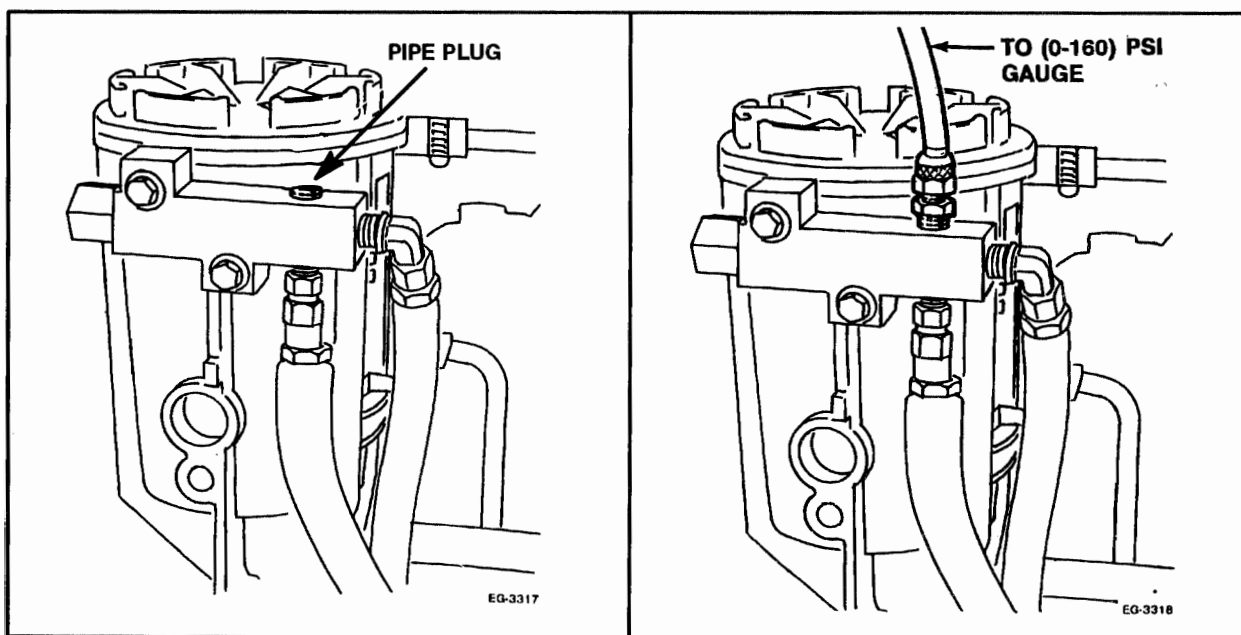

Figure 2.2-14. – Fuel Transfer Pump Pressure Check
1. Remove 1/8" pipe plug located on the fuel regulator block (**Figure 2.2-14.**). Install 1/8 inch (3 mm) pipe fitting in place of the pipe plug.